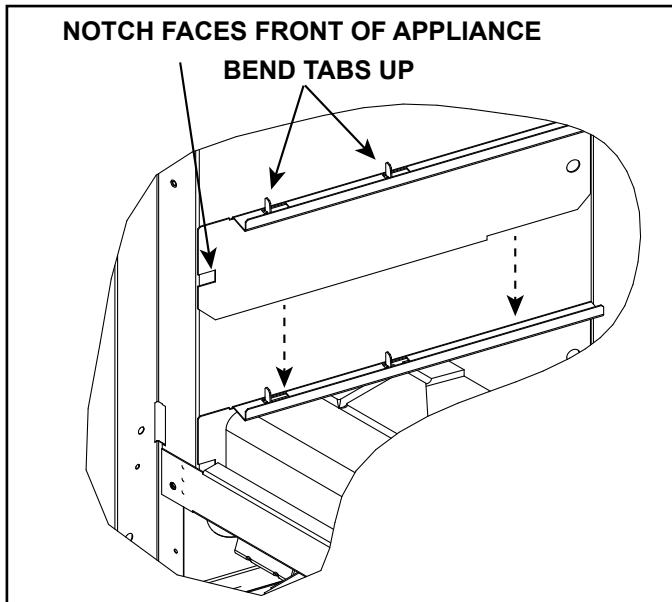
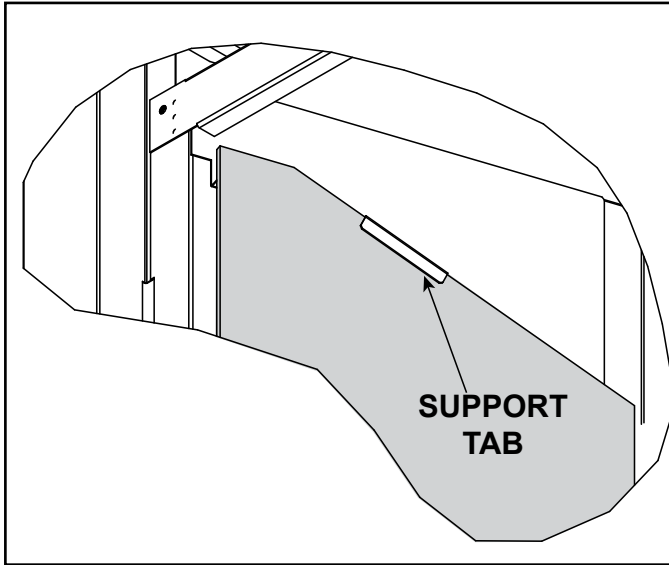

Figure 11.7 Install Lower Glass Bracket (Left Side Shown)
Figure 11.15 Install Left Glass Panel
1. Remove lower glass brackets from the top refractory packaging. Break brackets apart and bend “up” hand bend features. See Figure 11.7.
Install left and right lower glass brackets by installing them between the outer edges of the left and right hearth pieces with the notch facing the front of the appliance. These pieces will fit tightly between the hearth sides and the firebox. See Figure 11.7.
7. Install left glass panel by inserting the glass panel from the front. Slide panel into the bottom glass bracket between the bent up tab and return bend as shown in Figure 11.7. This will create a gap between the glass and the firebox. Slide the panel back until it contacts the rear glass panel. Ensure that the support tab shown in Figure 11.15 is bent "down" on each upper glass bracket to secure left/right glass panels. Repeat Step 7 for right glass panel installation.